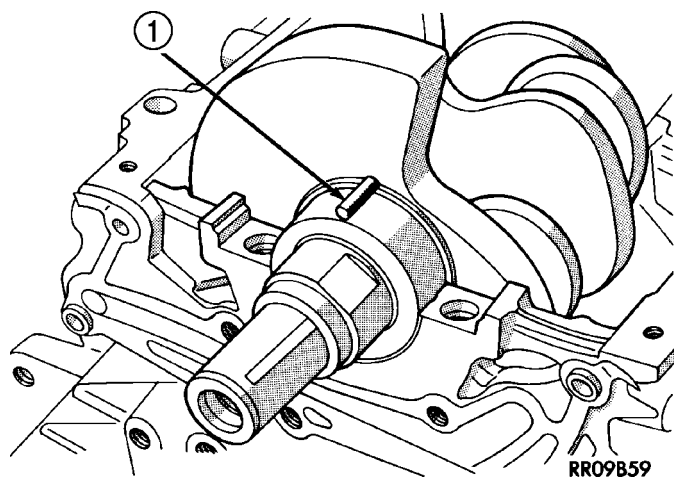

Fig. 4 Plastigage Placed in Lower Shell—Typical
- (1) Remove oil film from surface to be checked. Plastigage is soluble in oil.
- (2) Place a piece of Plastigage across the entire width of the bearing shell in the cap approximately 6.35 mm (1/4 in.) off center and away from the oil holes (Fig. 4). (In addition, suspected areas can be checked by placing the Plastigage in the suspected area). Torque the bearing cap/bed plate bolts of the bearing being checked to the proper specifications.